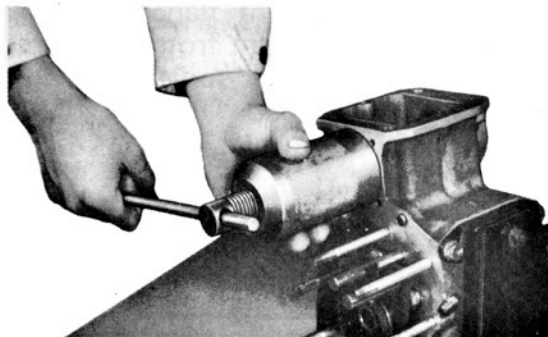

Fig. 3-8.
- 11) With the aid of the special tool (main-shaft puller-09922-65122) pull out the transfer gear input shaft as shown in the Fig. 3-8.